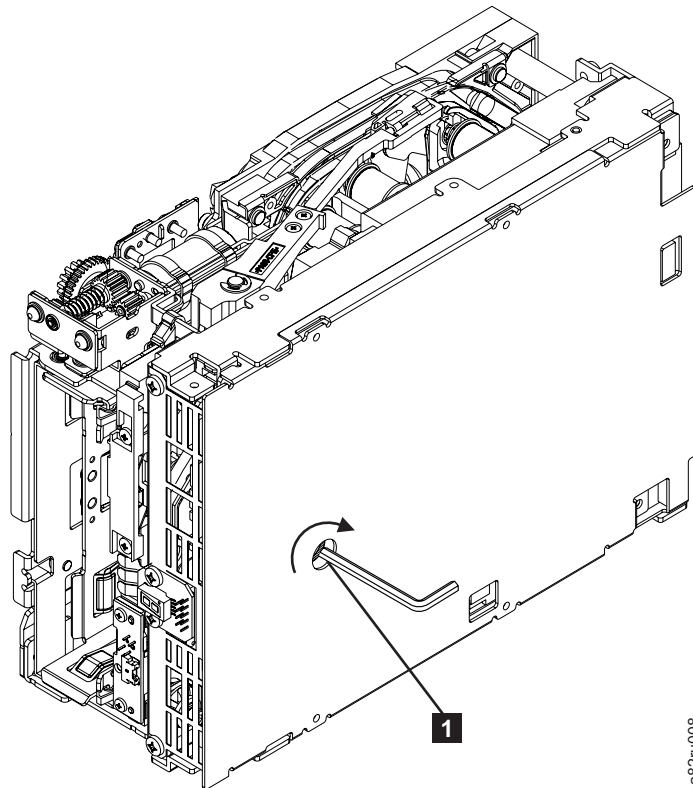

Figure F-10. Using hex wrench to rewind tape into cartridge
6. From the bottom of the drive, locate the access hole (**1** in Figure F-10) in the bottom cover. Insert a 2.5 mm offset hex wrench through the bottom cover access hole and into the reel motor axle. begin spooling tape back into the cartridge by turning the hex wrench clockwise.